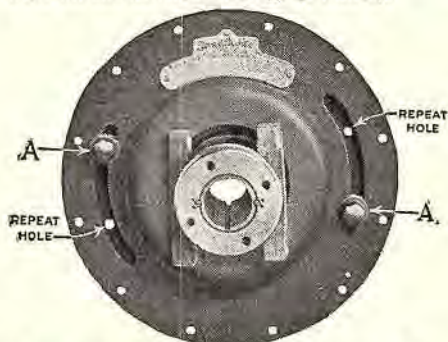
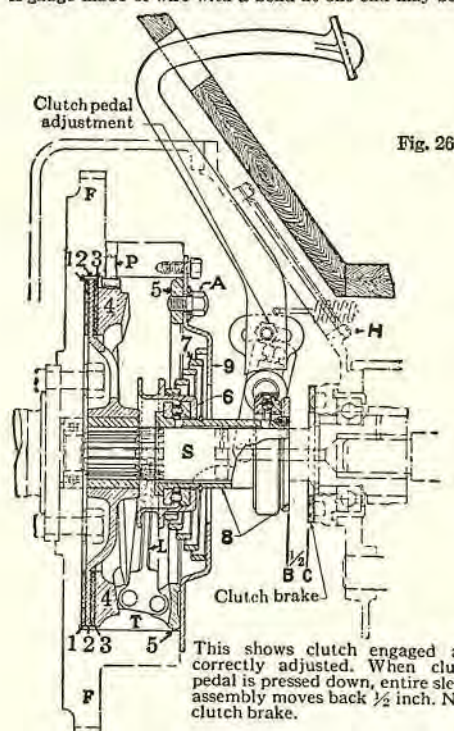
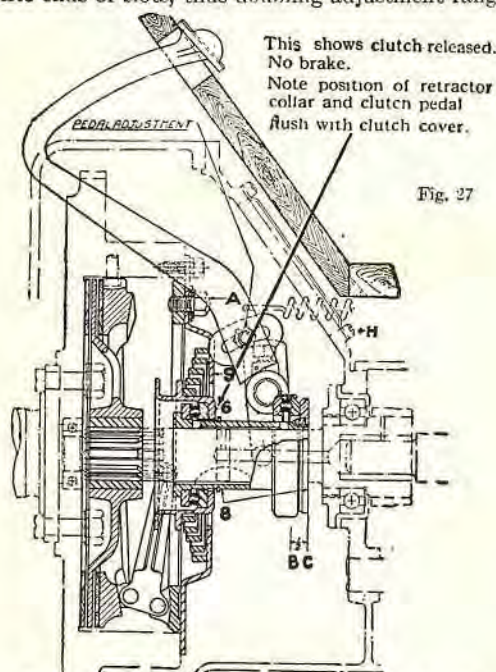
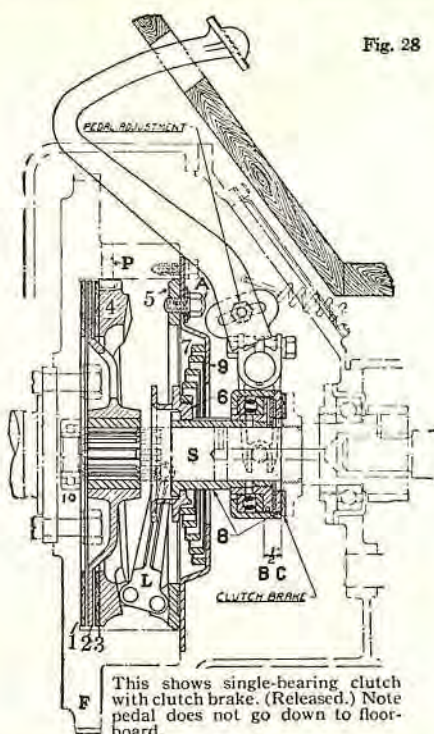

Fig. 25. View showing adjusting bolts (A) and slots.
Fig. 26
Fig. 27
Fig. 28
This clutch is termed a "single-plate clutch" because a single dry disk or plate (2) (Fig. 23) is locked to rotate with the flywheel by gradual pressure between two asbestos facings, or rings (1) and (3), thus driving the clutch shaft (S) (Fig. 26) that carries power to the transmission.
In two-bearing clutches¹ (Figs. 26, 27), all of the clutch except the driven plate (2), facings (1, 3), sleeve (8), and shaft (S), rotate at all times with the flywheel.² The sleeve (8) is keyed to shaft (S).
In single-bearing clutches¹ (Figs. 28, 29, 30) the sleeve (8) is not keyed to the shaft (S), and rotates with the flywheel.
Fig. 23. Parts of the Borg & Beck dry-plate clutch. (F) represents the flywheel ready for the clutch parts, which are shown disassembled in the order in which they are to be assembled. Note that inside of the flywheel the dowel pins that carry the thrust ring (4) are shown projecting (see also (P) Fig. 26.) The Borg & Beck Co., Chicago, are the manufacturers.
- (1) Friction ring, a duplicate of No. 3. These rings take all the clutch wear.
- (2) Friction disk, or dry plate, keyed to the shaft by 10 splines.
- (3) Friction ring; copper reinforced woven asbestos.
- (4) Thrust ring; note the inclined face toward the center, and adjustment inclines.
- (5) Mounting ring; fastens to the cover with adjustment bolts; it carries the bell-crank levers.
- (6) Retractor collar; the ends of the bell cranks engage in slots.
- (7) Spring is compressed between cover (9) and the retractor collar; it operates the bell-crank levers.
- (8) Sleeve carries retractor collar; note the thrust bearings.
- (9) Clutch cover bolts to the flywheel; note the adjustment bolts in the slots which are shown as (A) in Fig. 25.
The friction surface of the thrust ring (4) is a flat polished surface. The opposite face is a tripple cam surface against which pressure is applied (see Fig. 24). It is inclined radially to take the wedge action of the thrust shoes, and the three cam surfaces on the rear face provide adjustment. Three equally spaced dowel pins (P) (Fig. 26) drive the thrust ring (4) with the flywheel. It is mounted freely, however, to permit a slight forward and back movement as the pressure is applied or released.
The adjustment or mounting ring (5) carries three bell-crank levers (L) (Fig. 26) which transmit the spring pressure. Two slots are provided in the clutch cover (Fig. 25) that allow adjustment of this ring. It is bolted to inside of cover by the two adjusting screws (A). It should be readily understood that the pressure shoes come in contact with a thicker section of the thrust ring (4), or higher on the cams, when they are moved to the right, or clockwise, into a new position. This compensates for wear on the asbestos facings (1 and 3).
Refer to all illustrations (Figs. 26 to 30); (A), adjustment bolts; (B), correct engaged position; (C) correct released position.
The released position of the forward end of the sleeve assembly is not affected by wear or clutch adjustment, and, when correctly set, is always the same distance from face of flywheel. There are several ways of measuring this position, but the easiest way is to remove hand-hole plate (by removing screws H, Fig. 27) and observe position of retractor collar (6), as shown in Fig. 27.
1. Loosen both adjustment bolts (see Fig. 25). As both bolts are screwed into the same mounting ring (Fig. 24), moving one also moves the other.
2. Hold clutch pedal down. Move bolts (A) to the right, or clockwise, which tightens the clutch.
3. While the pedal is down, note position of retractor collar (6). The rear face of it should be about flush with the face of clutch cover (9) (see Fig. 27). If it is inside the cover, the pedal adjust-
¹ The type of clutch can be found on name plate located at front of clutch (see Fig. 25).
The "two-bearing clutch" refers to the two ball bearings, one at each end of clutch sleeve (Figs. 26, 27). The "single-bearing clutch" refers to the one bearing shown at right end of clutch sleeve only, in Figs. 28, 29, 30.
4. Let in clutch and note the distance that the sleeve travels. If more than $\frac{1}{2}$ inch, throw out clutch and move bolt (A) to right. If less than $\frac{1}{2}$ inch, move bolt (A) to left. After $\frac{1}{2}$ inch travel has been obtained, tighten both bolts (A). This completes clutch adjustment. When bolts (A) reach the right ends of the cover clots (Fig. 25), due to repeated adjustment, remove them and screw into the repeat holes which have been exposed at opposite ends of slots, thus doubling adjustment range.
The foregoing describes the manner of adjusting the clutch pedal where no clutch brake is used, allowing the pedal to be pressed down until it touches the floor-board (see Fig. 27).
Where a clutch brake is used, it is located at (C) position, and pedal adjustment should be set so that sleeve makes contact with brake before pedal touches the floor-board (see Fig. 28).
To adjust two-bearing type FGX: All have clutch brakes. Adjust pedal as shown in Fig. 28, and adjust clutch to allow $\frac{1}{2}$ inch travel of sleeve from engaged position (B) to brake (C).
To adjust two-bearing heavy duty types 13FX, FJX and single-bearing heavy duty type FJS: These have three adjustment bolts instead of two, and all have clutch brakes. Adjust pedal as shown in Fig. 28, and adjust clutch to allow a little more than $\frac{1}{2}$ inch but not more than $\frac{3}{8}$ inch travel of sleeve from engaged position (B) to brake (C).
To adjust single-bearing types DS, G, G-1, GS, SGS, RGS, J, JS: These types all have clutch brakes. Adjust pedal as shown in Fig. 28, and adjust clutch to allow $\frac{1}{2}$ inch travel of sleeve from engaged position (B) to brake (C) (see Fig. 30).
X signifies a two-bearing clutch with the sleeve keyed to shaft, as in Fig. 26.